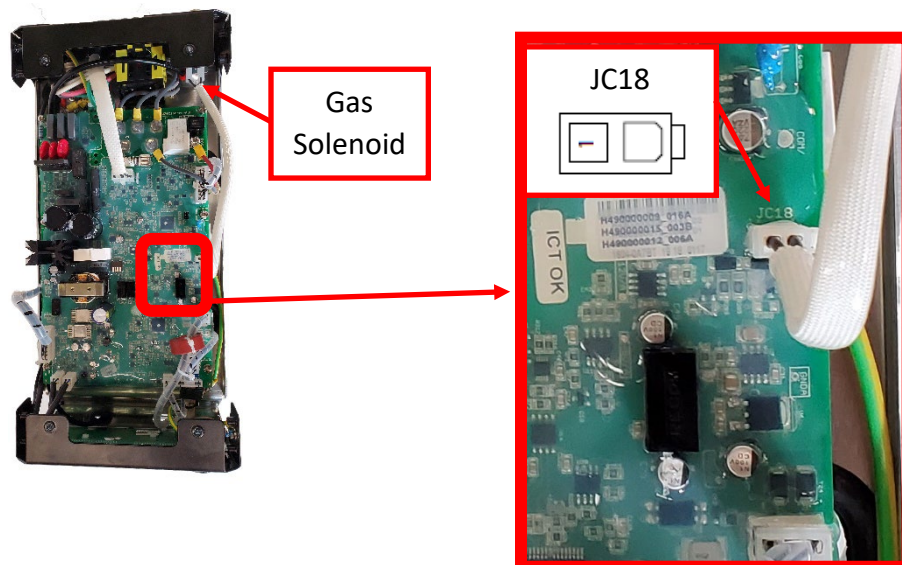

Figure F.5
B.3. Perform the active measurements in Test Table 2, refer to Figure F.5 for test point locations.